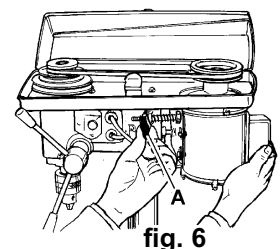

fig. 6
- 6.3.1. Open the pulley case and loosen the belt tension lock screw (fig.6.A).
- 6.4.1. With the belt tension lock screw (fig.6.A) loose and using hand pressure on the motor, set tension so that belts give is no more than 1/2" (13mm). Tighten lock screw.